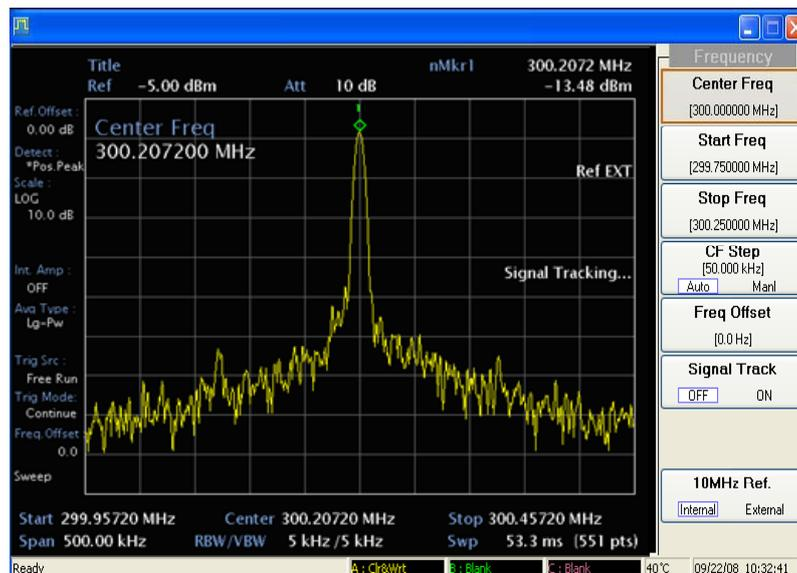

Fig. A-9 Using signal tracking to track a drifting signal
- 7 Tune the frequency of the signal generator. Notice that the center frequency of the analyzer changes in < 10 kHz increments, centering the signal with each increment; see Fig. A-9.